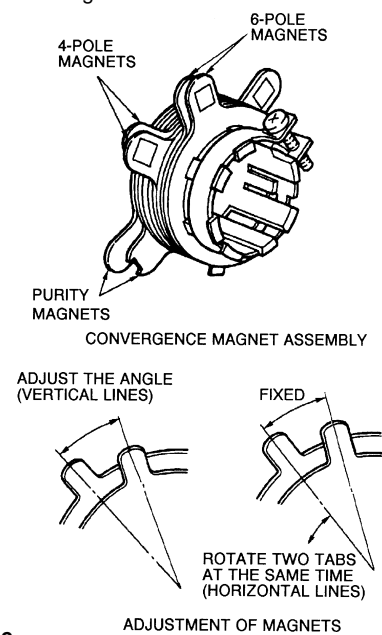

Fig. 2
6. Rotate and spread the tabs of the purity magnet (See figure 2.) around the neck of the picture tube until the green belt is in the center of the screen. At the same time, enter the raster vertically.
3. Adjust two tabs of the 4-Pole Magnets to change the angle between them (See figure 2.) and superimpose red and blue vertical lines in the centre area of the picture screen.